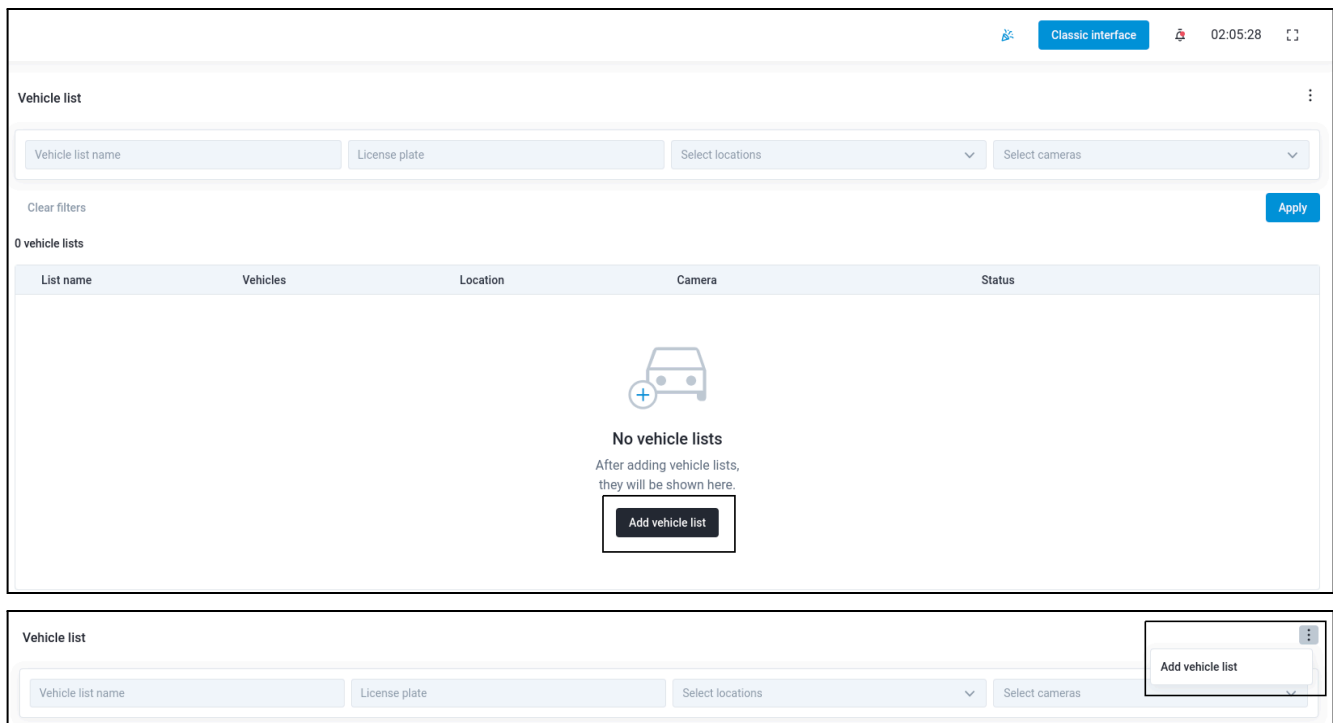

Figure 33: Adding a new Vehicle List
- If some vehicle lists already exist and you want to add another, click the Menu (three vertical dots) icon located in the top right corner of the Vehicle List page, and select **Add Vehicle List**. Refer to the screenshot below. See Figure 33.